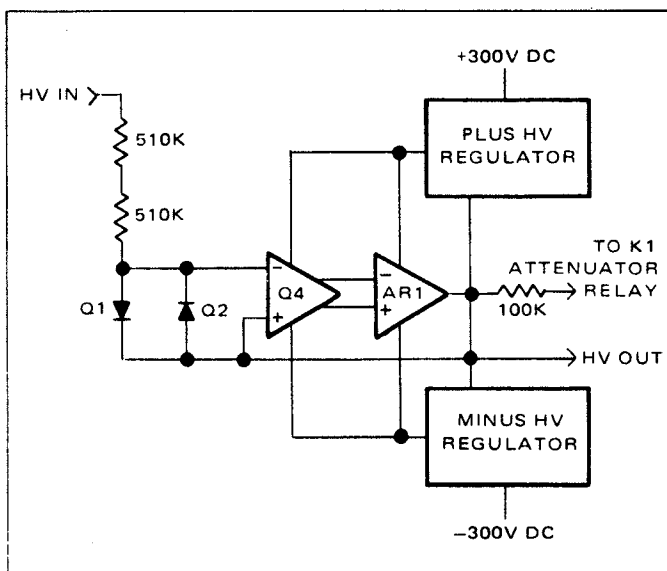

Figure 4.7 - High Voltage Buffer
4.3.6.1 The high voltage buffer is illustrated in simplified form in figure 4.7. This circuit protects the isolator from high measurement voltages, presents a high impedance to the measurement circuit to prevent circuit loading and isolates the  $K\Omega$  source terminal from the attenuator reference bridge on all  $K\Omega$  ranges.